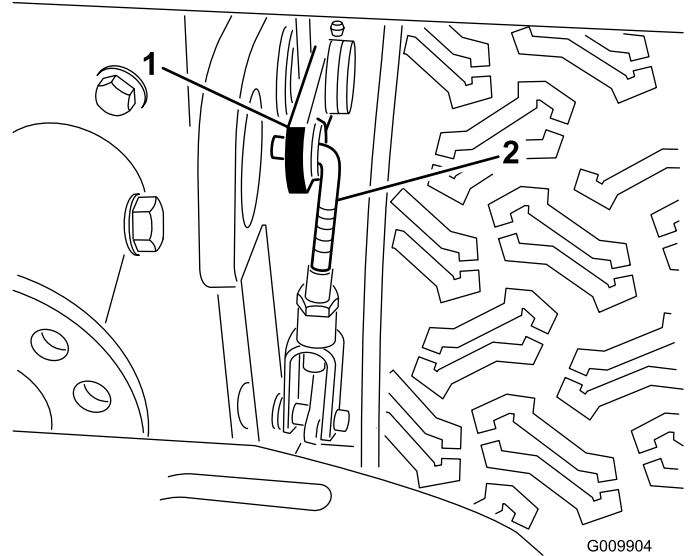

Figure 55
3. Loosen the jam nut on the clevis (Figure 55).